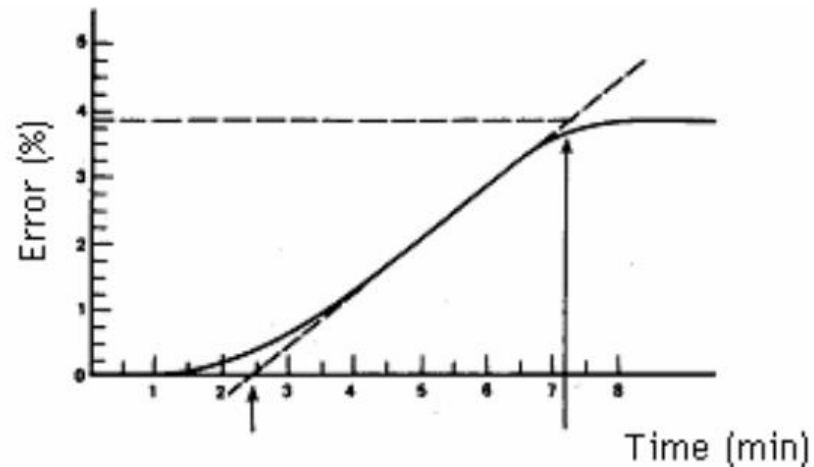

Figure 1.3
- A transient disturbance test is run on a process loop. The result of a 9% controlling variable change give a process-reaction graph as shown in Figure 1.3. Find the settings for three-mode action.